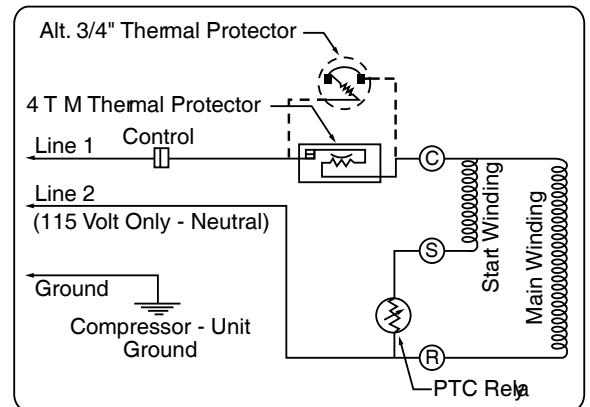

FIGURE 3-2: RSIR motor diagram with wired-in PTC relay
- a wired-in Positive Temperature Coefficient (PTC) relay (see Figure 3-2), or